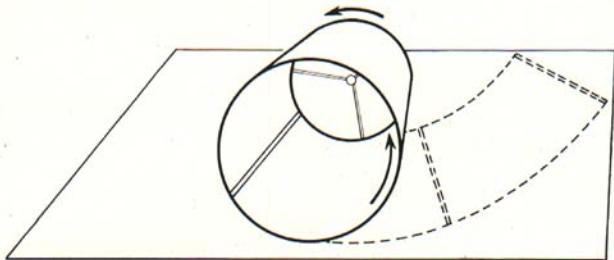

Fig. 1
4. Starting with the marked rib, roll the frame slowly, each person holding the frame while the other marks lines nearest him as follows (Fig. 1):